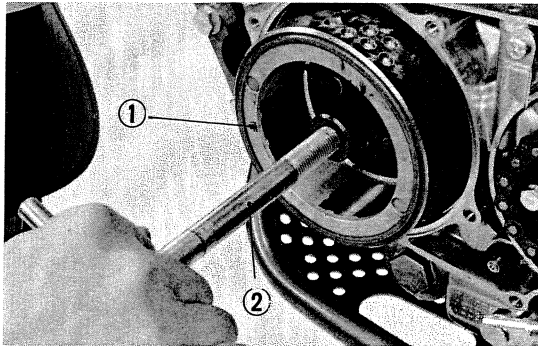

Fig. 47 ① Flywheel ② Flywheel extractor
- 3) Remove the primary coil by loosening off the Stator mounting bolt (Fig. 47)